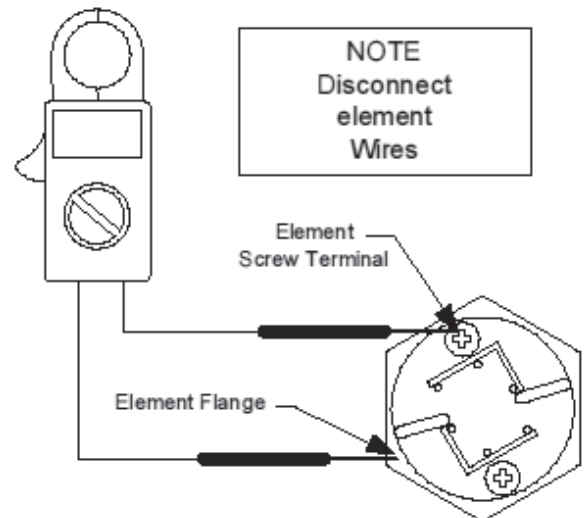

Figure 2
5. Touch one probe of multi-meter to either screw terminal of heating element and the other on the element flange (see Figure 2). There should be no reading on the ohm meter. Any reading indicates a grounded element and the element must be replaced. Repeat this step for the other screw terminal.